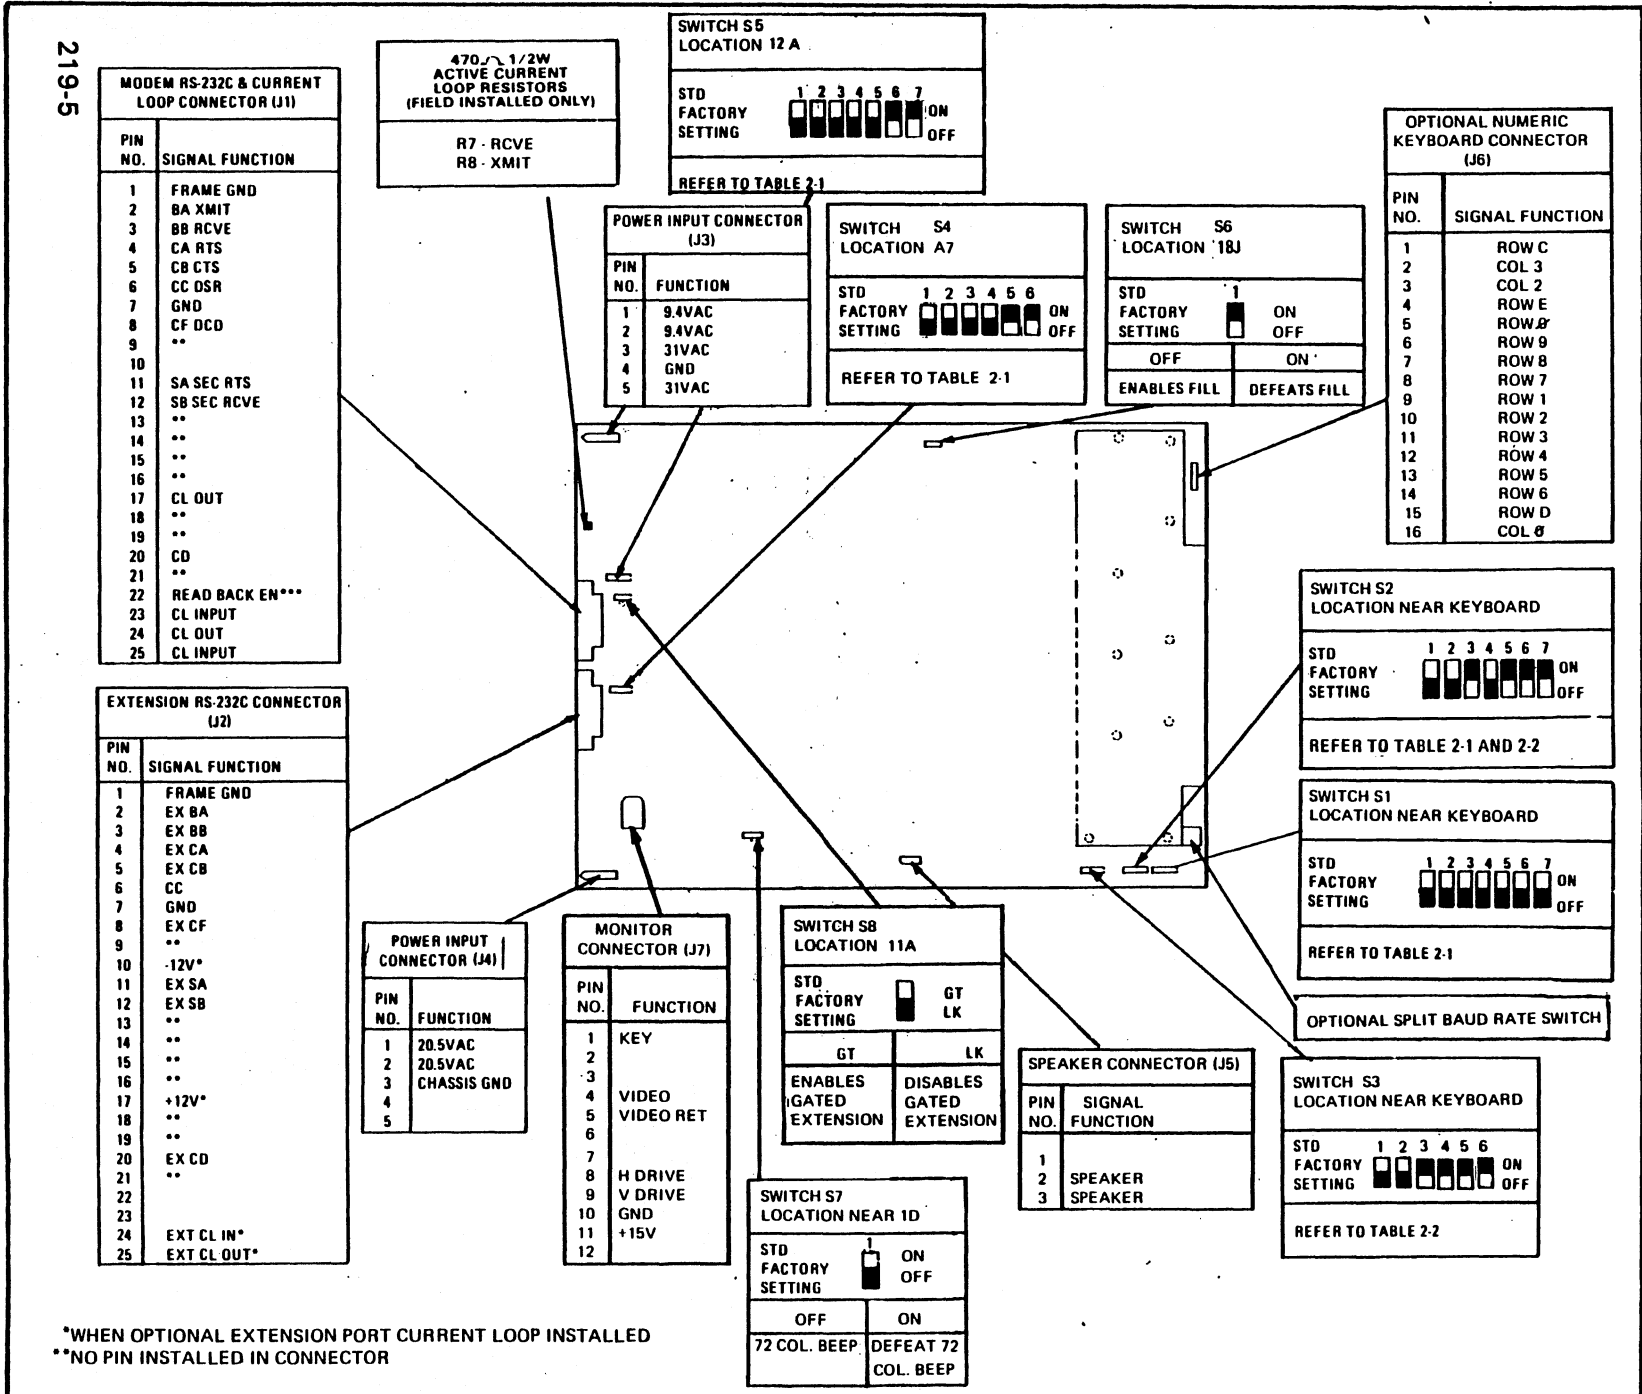
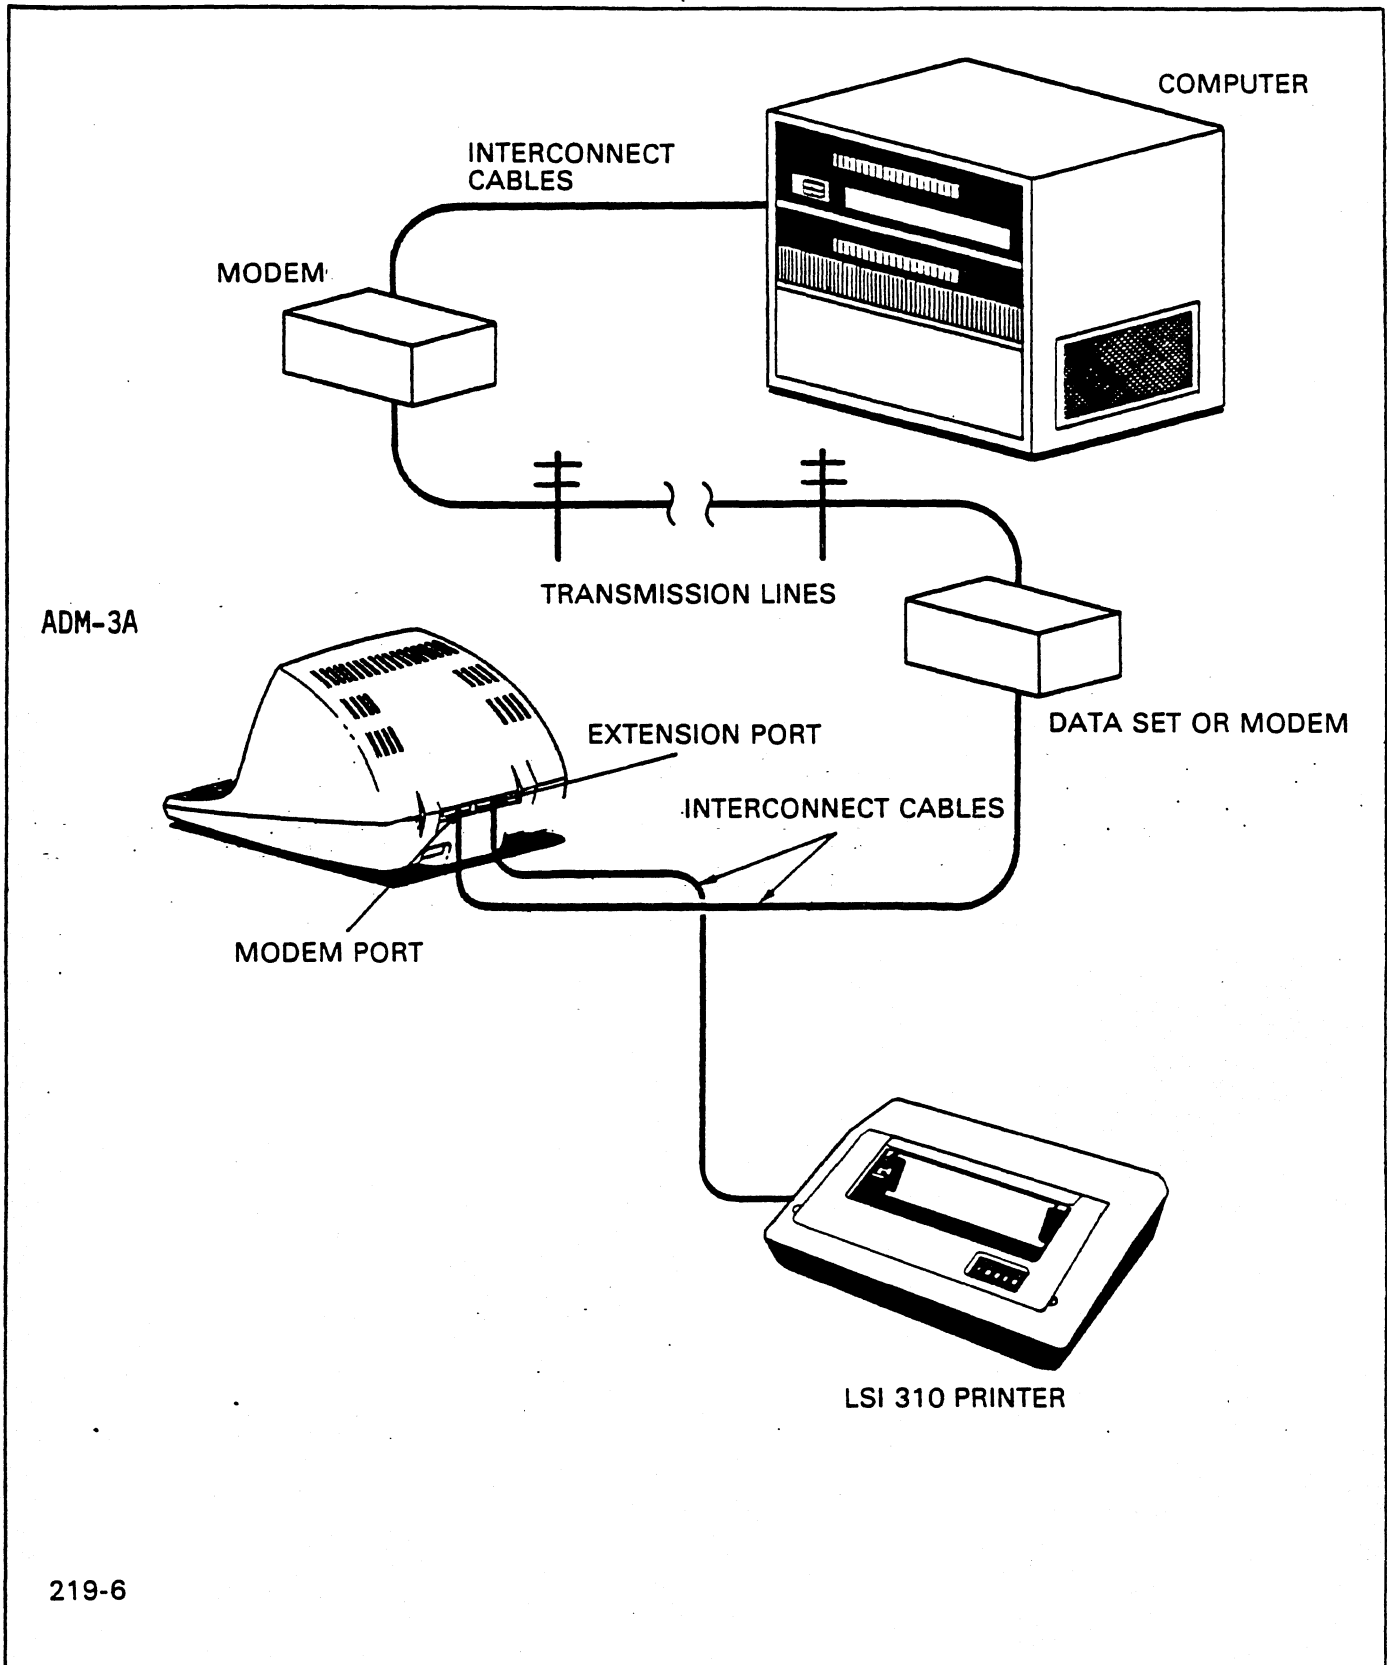

Figure 2-1. ADM 3A Connector and Configuration Switch Locations
Figure 2-2. Typical ADM 3A Application
required switch settings should be made before attempting to operate the terminal. Figure 2-1 shows the location and identity of the configuration control switches, as well as connector/pin designations. Tables 2-1 and 2-2 describe the function and factory setting of each switch.
The ADM 3A may be cabled directly to a local computer, or it may be connected via telephone data lines to a remote computer located almost anywhere. Remote computer connections usually require the use of a modem or data set. Figure 2-1 shows the connector/pin assignments for the MODEM and EXTENSION ports. Figure 2-2 shows typical ADM 3A application.
2. Connect the interconnect cable(s) using the appropriate information in figures 2-1 and 2-2.